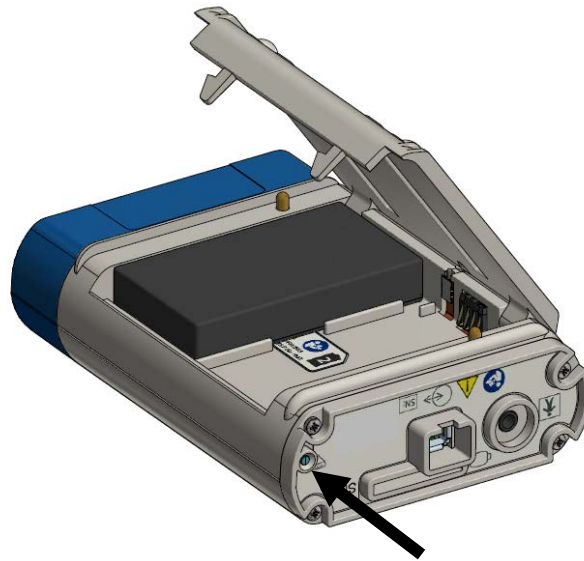

Figure 3: Battery replacement
2. Using the T4/t4A Tool, open the battery door by pressing the door-release button. The battery door will spring open. See Figure 3.